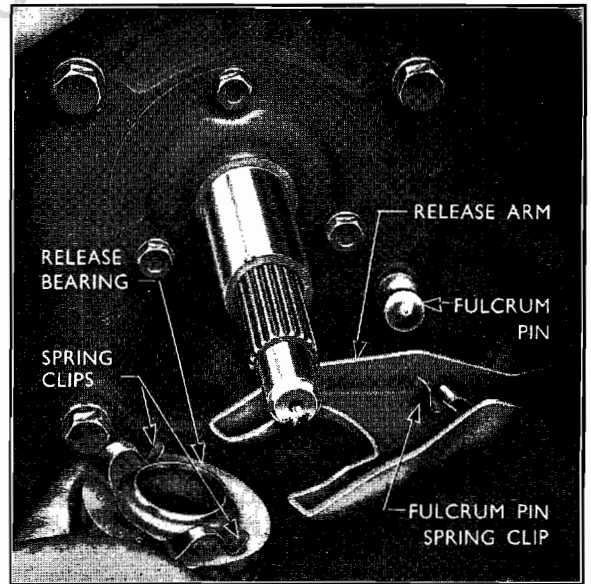

Fig. 5
1. **Dismantle the clutch operating mechanism.** Remove the gaiter and slide the release arm out of the spring clip on the release bearing hub (see Fig. 5) and, lifting the arm off the fulcrum pin, slide the release bearing off the main drive gear bearing retainer. Remove the clutch release arm by withdrawing it into the clutch housing.